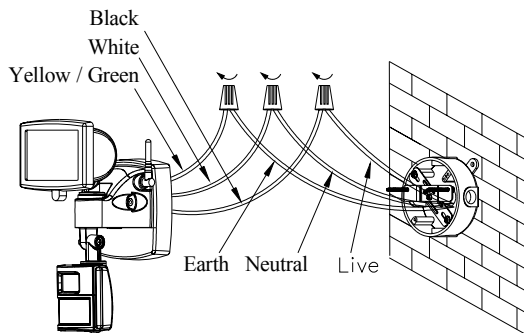

FIGURE 15
- (3) Place the gasket in position before wiring.
- (4) Connect the black wire from the fixture to the black (Live) power supply wire from your power source using the wire nuts provided. Connect the white wire from the fixture to the white (Neutral) power supply wire using the wire nuts provided. Connect the yellow/green wire from the fixture to the yellow/green (Earth) power supply wire using the wire nuts provided. (FIGURE 15)